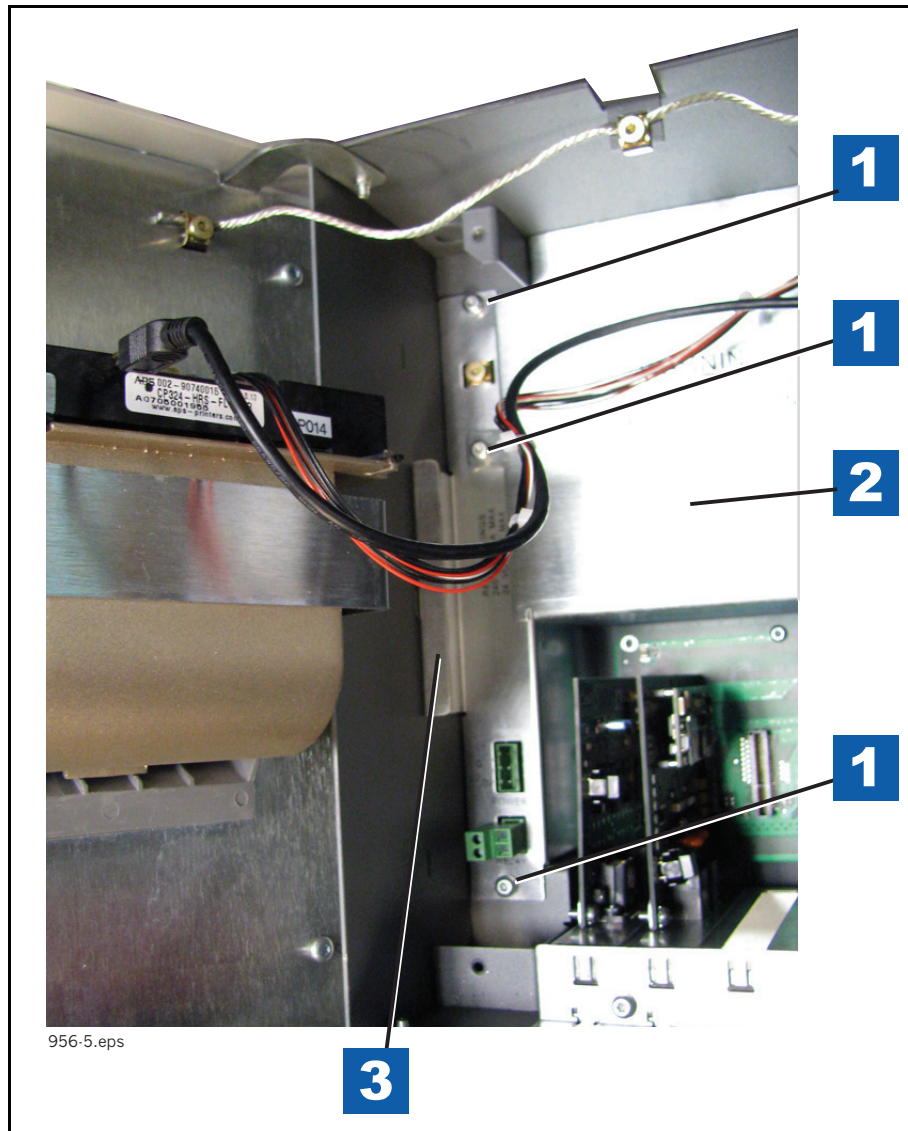
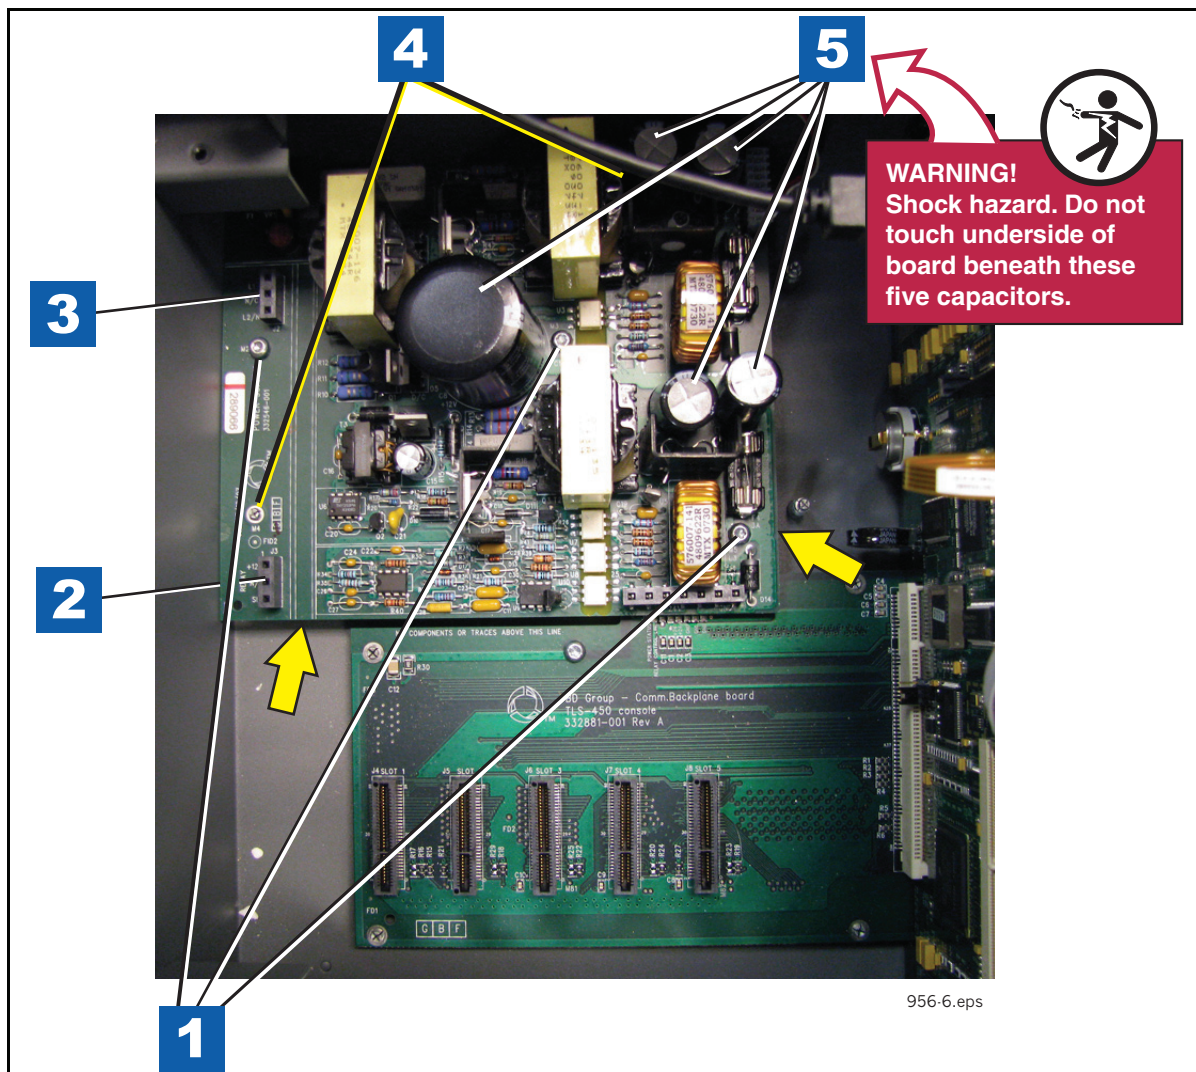
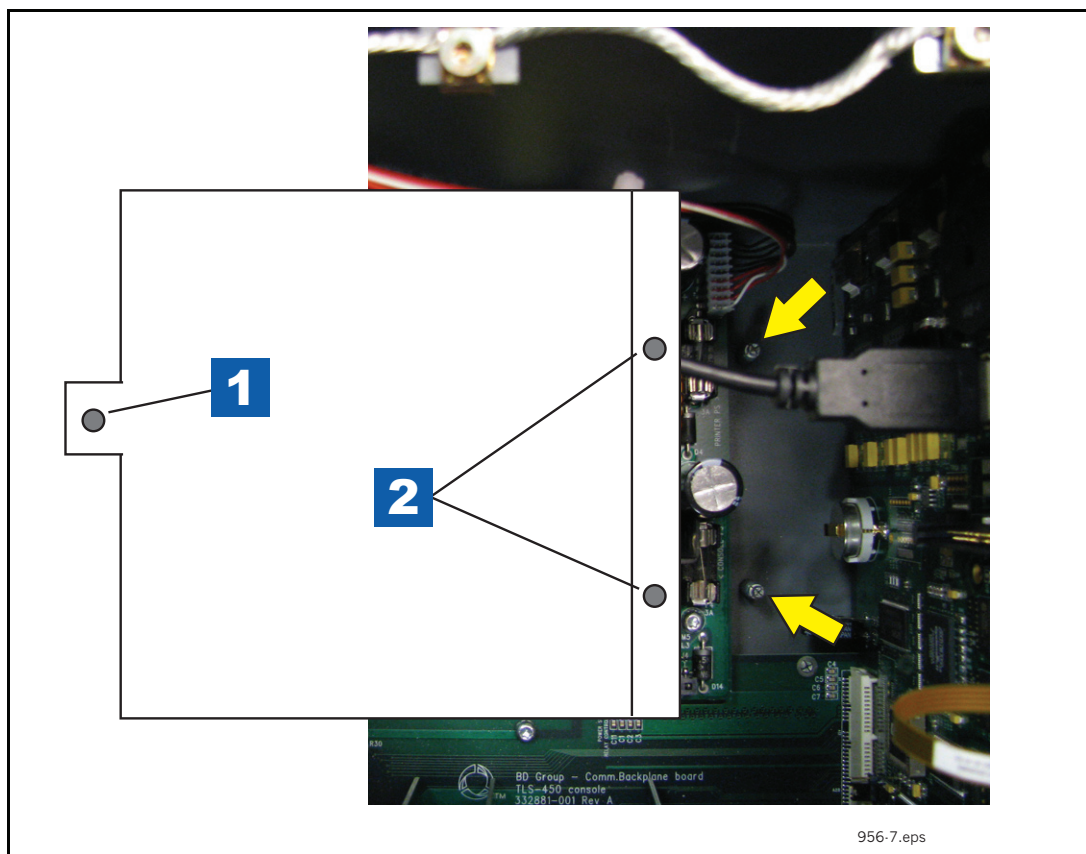

Figure 7. Removing AC Input module
Figure 8. Removing Power Supply
Figure 9. Replacing Power Supply shield over Power Supply board
2. #8 taptite screws (2)
5. Remove the three #8 taptite screws in the AC Input module (item 1 in Figure 7).
6. Lift the Power Supply shield up to disengage the two retention snap pins in its right side flange and remove it from the console (item 2 in Figure 7).
7. Grasp the AC Input module handle (see item 3 in Figure 7) and slowly pull up and away from the power supply until the AC Input module disconnects from the power supply. Lift the AC Input module out of the console.
Legend for numbered boxes in Figure 7
8. Remove the three #6 taptite screws (item 1 in Figure 8) that secure the Power Supply board to the console housing.
9. Place fingers under the Power Supply board (at locations indicated by two arrows in Figure 8) and lift the board up until it is free of the two retention pins (item 3 in Figure 8).
Legend for numbered boxes in Figure 8
14. Lineup the two holes in the Power Supply board (see item 4 in Figure 8) with the two retention pins in the back of the console housing and push the board down until the pins snap into position.
15. Install the three #6 taptite screws (item 1 in Figure 8) and tighten them.
16. Get the AC Input module. Notice that there are two male connectors on the bottom of the AC Input module board that plug into two female connectors on the Power Supply board. With the handle (item 3 of Figure 7) of the AC Input module against the left side of the console housing, line up the two AC Input module bottom connectors over the two female connectors (items 2 and 3 in Figure 8) on the Power Supply board and push down on the AC Input module until the connectors are firmly seated.
17. Place the Power Supply shield (item 2 in Figure 7) over the Power Supply board and lower it down onto its two retention pins (see item 2 in Figure 9) and snap it into place.
18. Install the three #8 taptite screws in the AC Input module (see item 1 in Figure 7).
Legend for numbered boxes in Figure 9